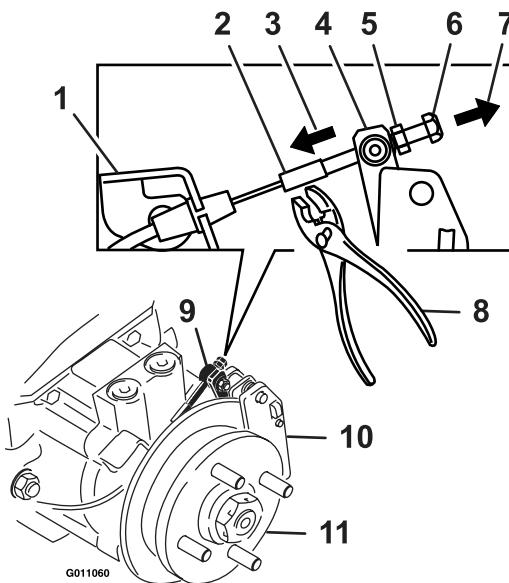

Figure 33
9. Hold the threaded rod end with a tool and loosen the lock nut away from the standard nut (see Figure 33). Do Not allow the cable to turn when the nuts are being loosened.
10. Remove all slack from cable by pulling on the caliper lever arm with a medium amount of force. Using hands and fingers only, push the caliper lever arm to engage the brake pads on the rotor until the lever stops. While holding the lever at the stopped position, use the other hand or fingers to pull the slack out of the cable threaded end through the swivel. Spin the standard nut against the swivel (see Figure 33).